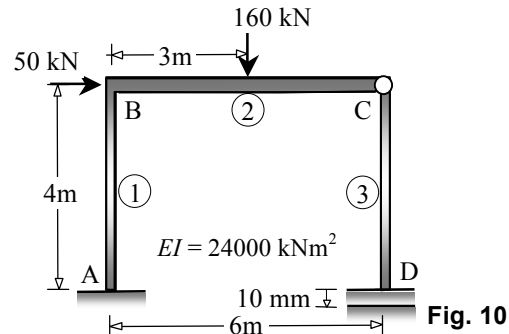

Fig. 10
8. Analyse the portal frame shown in Fig. 10 (with an internal hinge at C, loading and support settlement of 10mm at D, as shown) by the reduced stiffness method, ignoring axial deformations, to find (a) the horizontal deflection at B, and (b) the hogging moment at B. Assume $EI = 24000 \text{ kNm}^2$ for all members.